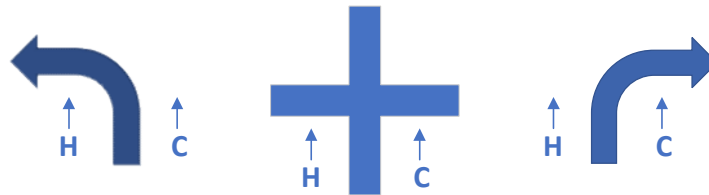

Figure 6: Robot Motion and Sensor Position Along the Track
1. **Complete** a truth table for each output in Figure 5. The task is to keep the robot centered over a black line of electrical tape placed on a white surface in a random path. You will place the robot onto the track with the center sensor aligned over the black line. Horizontal tape forms road blocks on the track at periodic intervals. The first step in design is to determine appropriate behaviors for each input pattern. **Use** Figure 6 to help think about how the logic outputs for the left and right line sensors change as the robot rolls along the track.